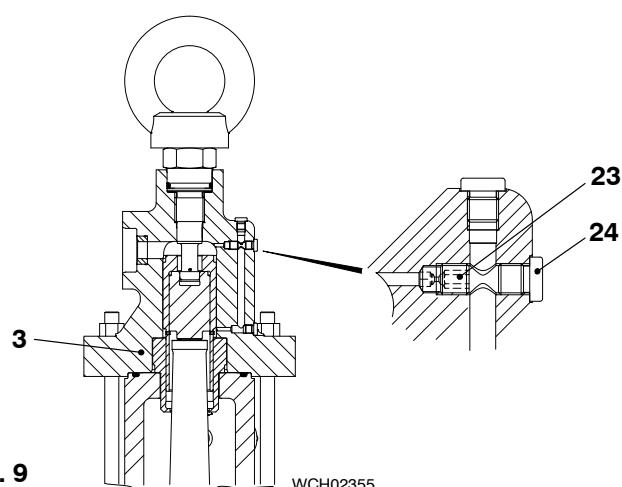

Fig. 9
- 2) Remove the screw plug (24, Fig. 9).
- 3) Remove the throttle (23).
- 4) Make sure that the throttle (23) is clear.
- 5) Put oil on the threads of the throttle (23).
- 6) Put the throttle (23) in position.
- 7) Torque the throttle (23) to 20 Nm.